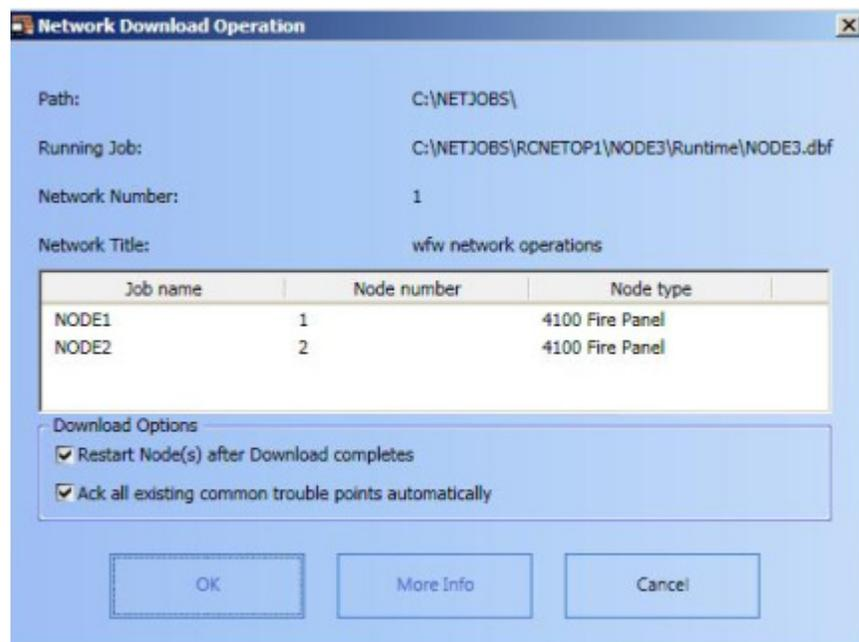

Figure 11-15 Network Download Operation Dialog Box
1. Click on **Network Download**. In the **Warning** dialog box that appears, click on **Start Download** to proceed (Figure 11-15).